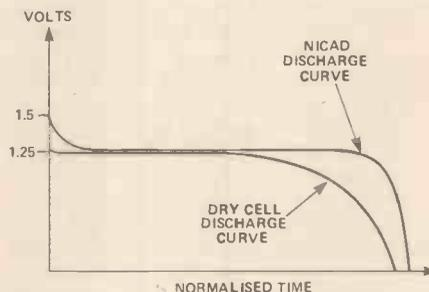

Figure 7. Graph of cell voltage against time, comparing a dry cell and a nicad cell, with a constant discharge current.
2) Dry-cell voltage varies considerably with time. If we were to plot a graph of a dry-cell's voltage against time and compare it with a similar nicad cell graph (Figure 7) we can see that although the dry-cell voltage may be higher than the nicad cell voltage at commencement of the plot, as it discharges it will eventually become lower than the nicad cell voltage. In fact, the nicad cell output voltage is so constant and the final discharge point ie, the time when the cell may be thought of as fully discharged, occurs so rapidly that equipment powered by nicad cells may be operating satisfactorily one second and then stop the next, as the final discharge point is reached.